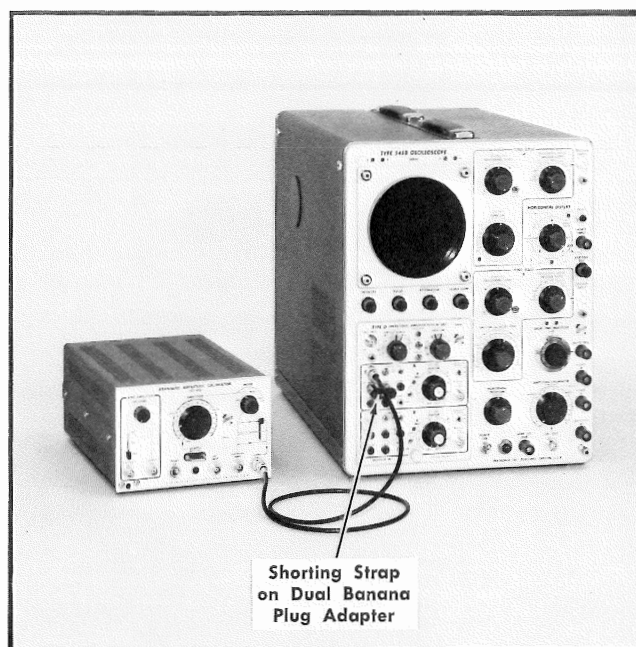

Fig. 7-5. Initial test setup for step 17.
b. Install a shorted double banana plug adapter between the INPUT and —GRID banana jacks (see Fig. 7-5) and apply a 1 mVolt signal from the Standard Amplitude Calibrator to the appropriate O Unit INPUT connector. Set  $Z_f$  on the unused amplifier to 1 MEG; otherwise stray signals may deflect the display offscreen. Position the display to graticule center with the POSITION control. If necessary, readjust OUTPUT DC LEVEL control (front-panel) to move the display onto the graticule.